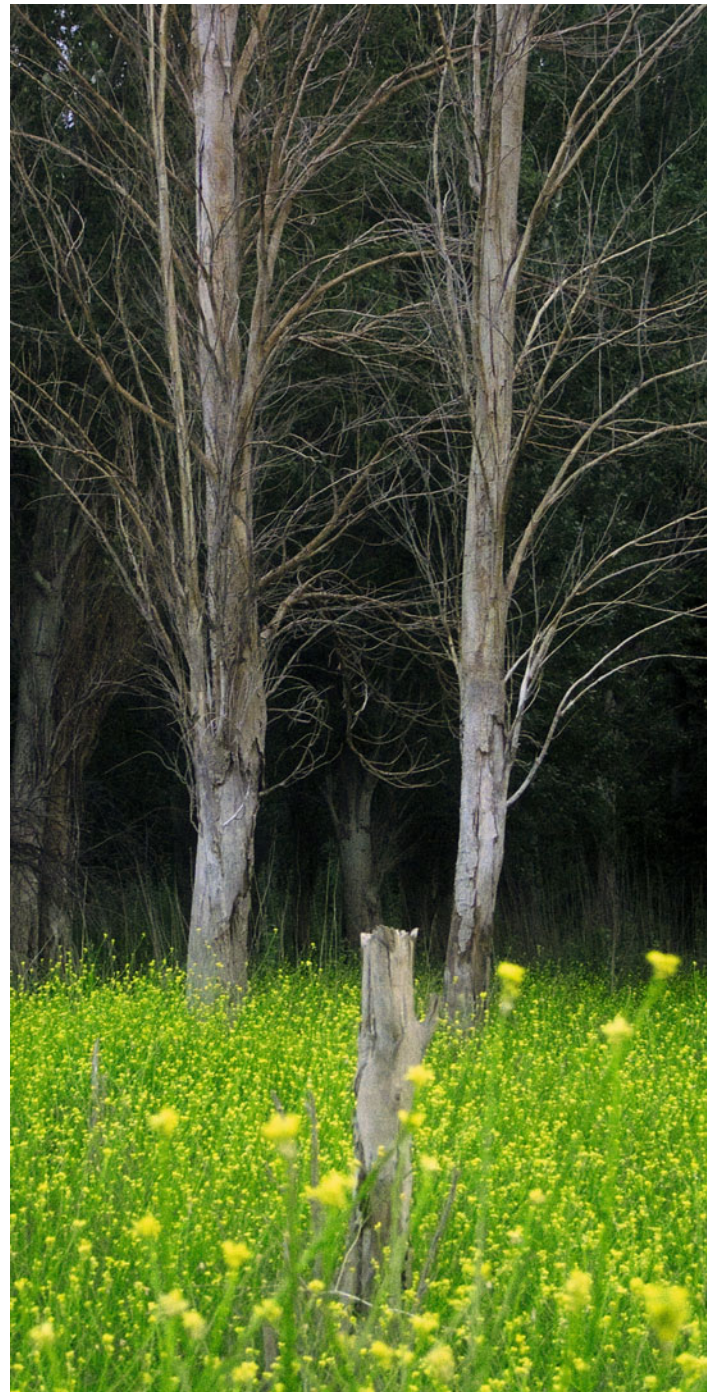
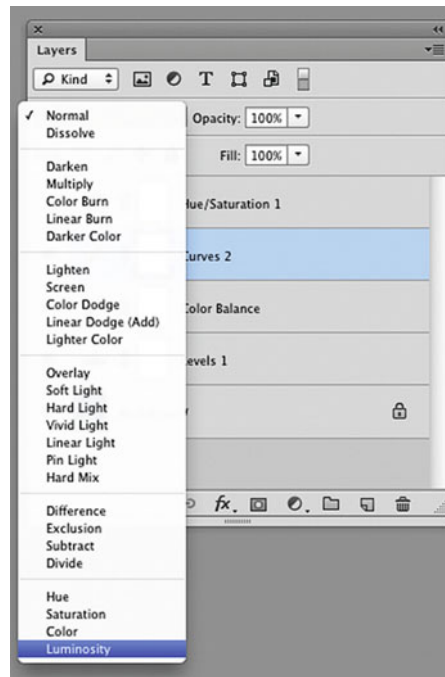

FIGURE 7.21
FIGURE 7.22
When we increased contrast using the **Curves Adjustment Layer**, resulting in the image in Figure 7.20, we also increased saturation in the green and yellow of the foliage at the bottom. This is confirmed in the Info Panel in Figure 7.21, where we can see in the Lab values from the foliage that the Lightness (L) has increased as expected, but “a” and “b” have also increased in absolute terms. This absolute increase to the “a” and “b” values (more positive or more negative) means there has been an increase in saturation. This increase in saturation might be desirable or undesirable depending on the type of image. In a landscape, like we are using here, it is, possibly, more acceptable, but in a portrait a more saturated skin tone might be something we want to avoid. To make the contrast adjustment curve only affect contrast or tonal information and not saturation, we need to change the **Blend Mode** for the **Curves Adjustment Layer** from **Normal** to **Luminosity**, as seen in Figure 7.22. The result is seen in Figure 7.23 in both the image and the **Info Panel**. In **Luminance** blend mode, the Lightness increases, but the saturation does not increase; it basically stays the same or slightly decreases.